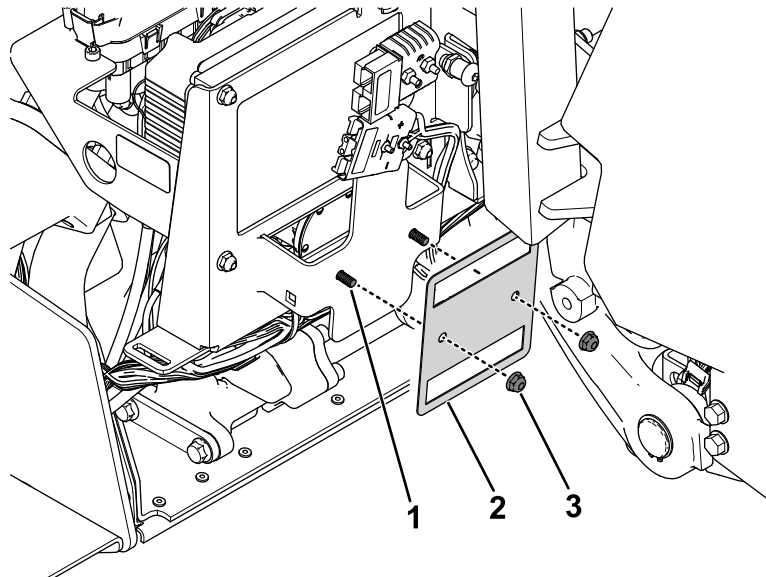

Figure 36
3. Remove the existing fuse bracket from the frame (Figure 36). Retain the hardware.